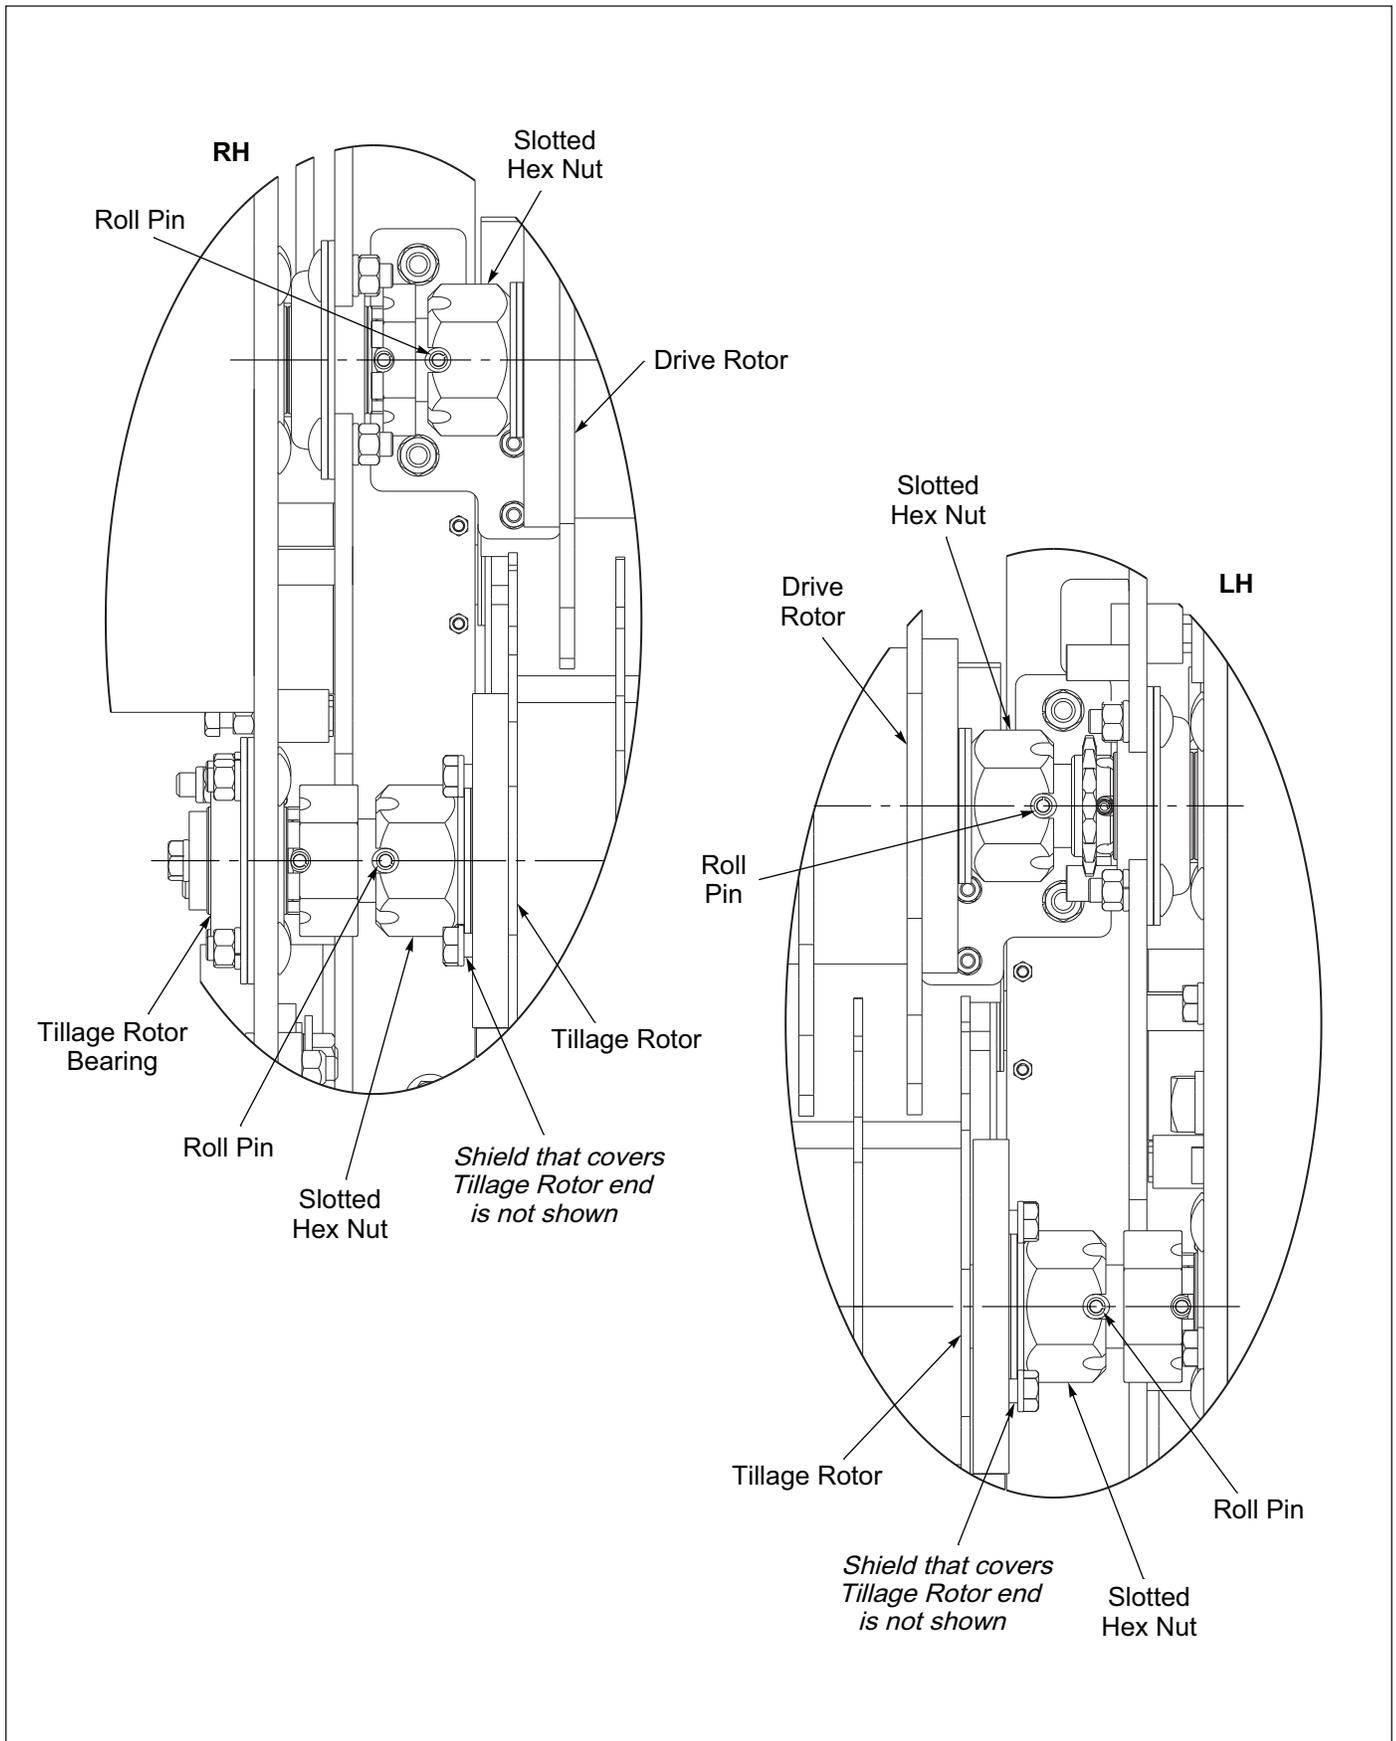

Figure 4-5: Rotor Adjustment
3. Remove Slotted Hex Nut Roll Pin. **See Figure 4-5.**